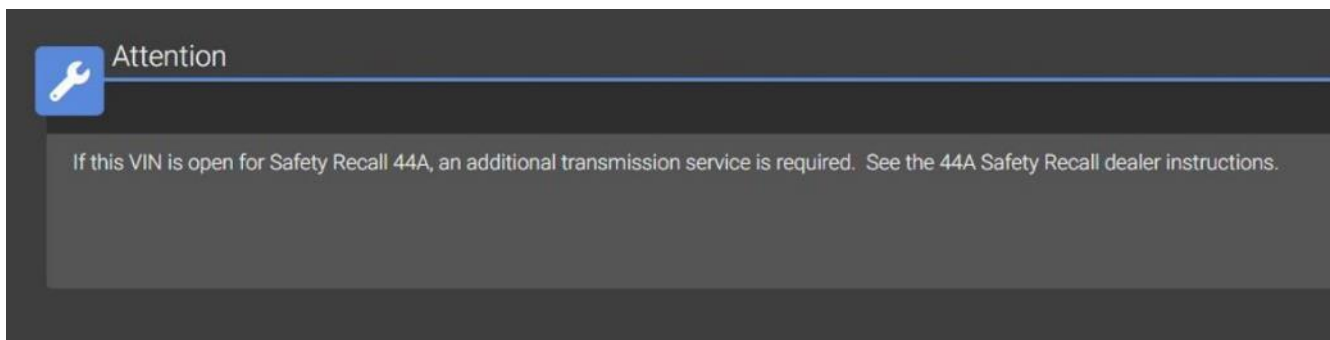

Figure 1 – wiTECH Popup Message
7. Did a wiTECH message pop-up appear stating "If this VIN is open for Safety Recall 44A, an additional transmission service is required. See the 44A Safety Recall dealer instructions."? (Figure 1)
15. Did a wiTECH message pop-up appear stating “**If this VIN is open for Safety Recall 44A, an additional transmission service is required. See the 44A Safety Recall dealer instructions.**”? (Figure 1)